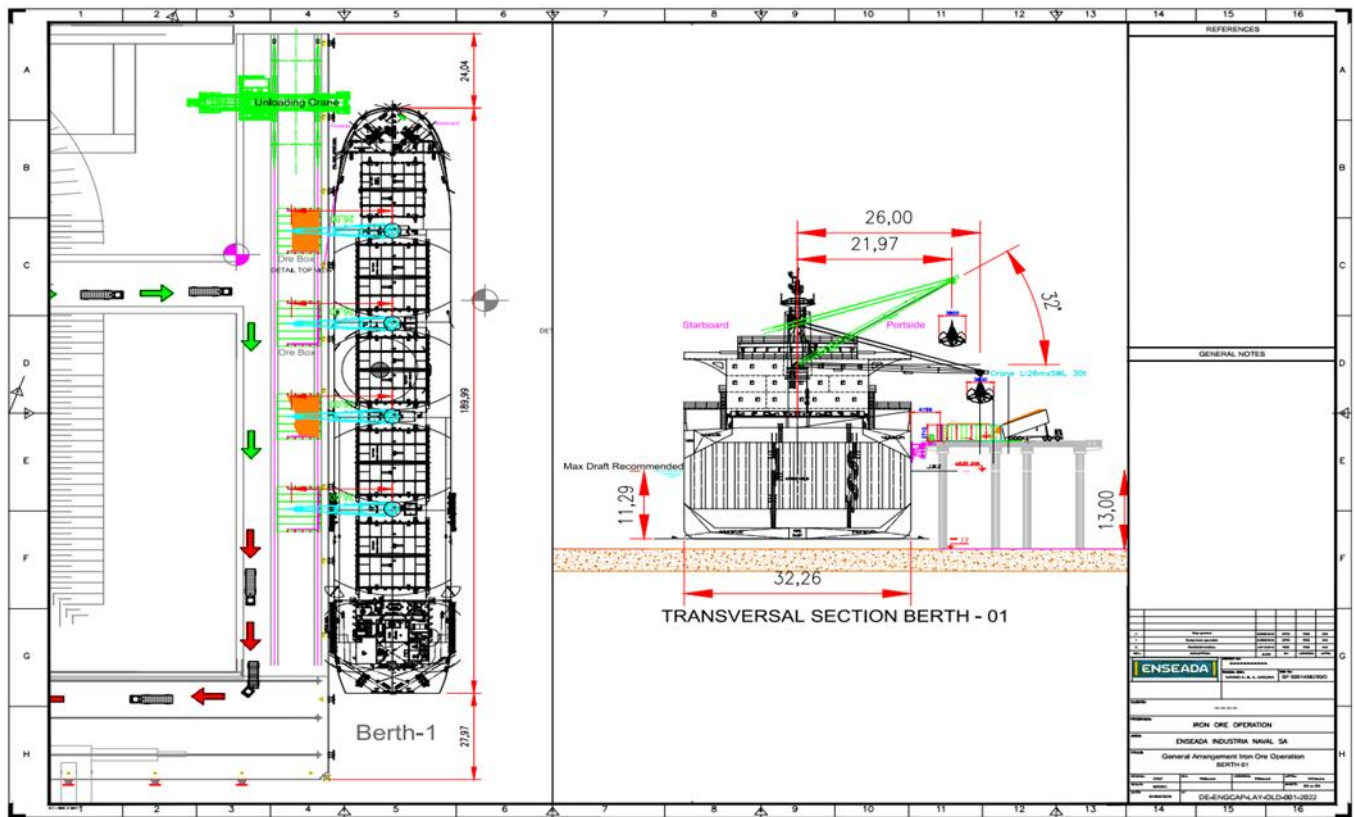

Figure 2 - General Arrangement of Berthing for Loading of Ore Cargo in Bulk
10. The general arrangement of berthing is illustrated below (figure 2).